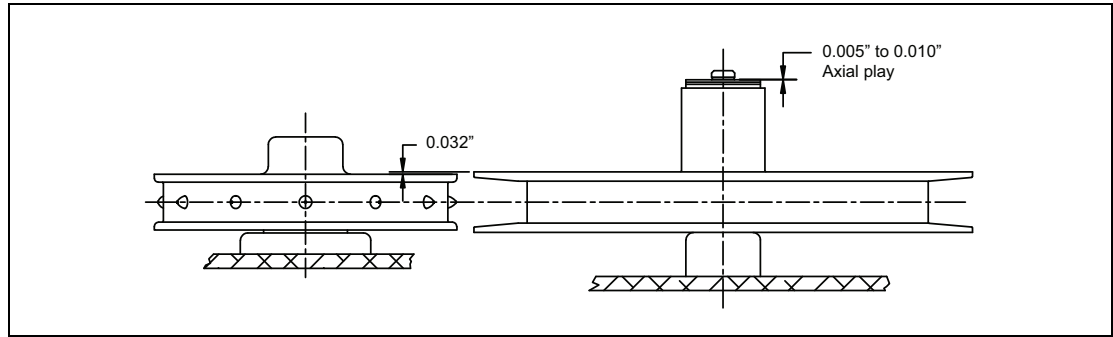

Figure 38: Sheave Alignment
1. Install a Teflon washer if needed (4), a shim washer (45) and the new storage sheave (51) over the lower gauge head shaft (10).
2. Adjust the number of shims to bring the sheaves into the specified alignment as shown on Figure 38.